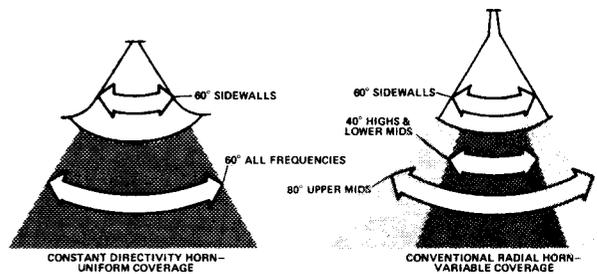
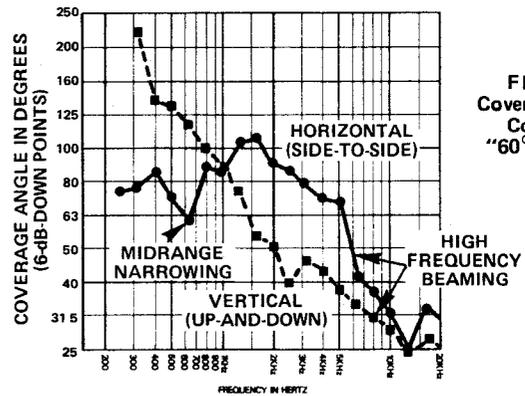
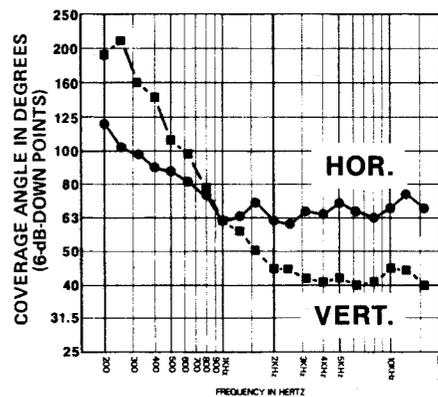
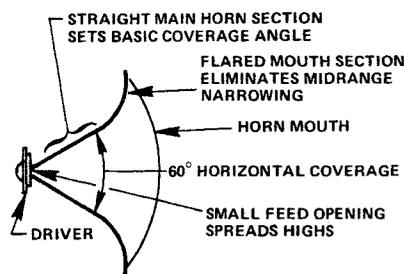

FIGURE 1 – Horizontal (Side-to-Side) Coverage Angle Comparison, Constant Directivity and Conventional Radial Horns
FIGURE 2 – Coverage Angle of a Conventional "60° x 40° Radial Horn
FIGURE 3 – Coverage Angle of 60° x 40° Constant Directivity Horn (E-V 6040A)
FIGURE 4 - Top Section View of Constant Directivity Horn (E-V HR6040A)
The dramatic coverage differences between a constant directivity horn and a radial horn of conventional design are summarized in a visual way in Figures 1, 2, and 3. Figure 1 shows the basic comparison. Figure 2 shows in a more technical and detailed way how the coverage angle of a conventional radial horn changes with frequency. The angle changes a *lot!* The manufacturer calls his horn 60° x 40° but that's true only at a few frequencies – otherwise, it varies from here to Newport, Tennessee. In contrast, the constant directivity horn has an essentially uniform coverage angle over a wide frequency range. Take a look at Figure 3.
This opening is usually, but not always, near the driver. The small opening assures that high-frequency sounds coming from the driver will be spread wide enough to fill, and be controlled by, the main section of the horn. Simply put, the laws of physics dictate that a large opening at the entrance to the main horn section cannot spread the highs to fill the main section. The problem is related to the principle of why the tweeters in you hi-fi speakers are much smaller than the midrange and woofer parts. For a look at a typical small feed section in a constant directivity horn, see Figure 4.
2. A constant directivity horn has straight sidewalls over a major portion of its length in both the horizontal and vertical planes. These straight sections are basically responsible for establishing the horn's constant directivity over a wide frequency range. The particular coverage angle of the horn corresponds (nicely) to the angle between the two straight sides. Refer to Figure 4. The curved vertical section of a traditional exponential radial horn cannot, by definition, have constant directivity. However, there are many horns made this way and one is shown in Figure 6.
3. Constant directivity horns have an additional wide-flare section near their mouth openings. This flare is shown in Figure 4. The additional flare eliminates the substantial narrowing of midrange coverage angle that occurs in all horns of conventional design (refer back to Figure 2).